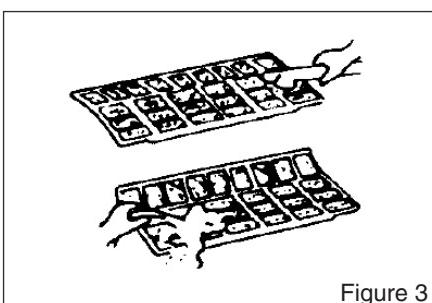

Figure 3
- Clean the Air Filter Screen with a vacuum cleaner. If the screen is too dirty, please use lukewarm water (about 30°C) to clean it (see Figure 3). Air dry after the cleaning.